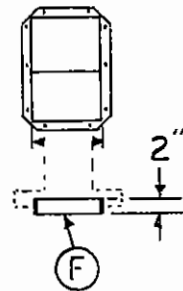

FIG. 24
- Slide spacer bars (F) (On Model 50 use 9-5/16" long spacer and on Model 85 use 13-5/16" long spacer) in between mounting plates (A) and truss sides and bolt together using 3/8" x 1-1/4" (grade 5) hex head bolts, flat washers and nuts (22 required). See Figure 24.